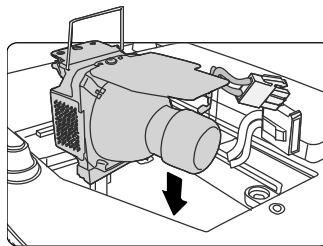

Figure 4. Installing New Lamp Assembly.
7. Insert the new lamp into the lamp compartment and make sure it fits in the projector as shown in Figure 4.